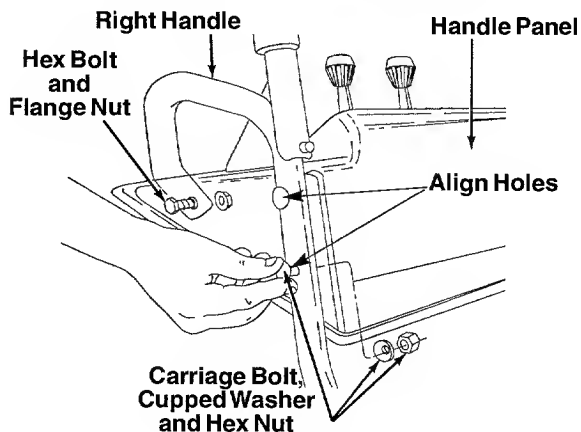

FIGURE 3
- Place handle panel in position between the handles so the ends of the curved part of the handles go through the slots in the handle panel. Align the holes in the handle with the holes on the two sides of the handle panel. See figure 3.
- Attach handle panel to the handle with four carriage bolts, cupped washers (cupped side against the handle panel) and hex nuts as shown in figure 3. Align the contour of the carriage bolt head with the handle.
- Attach rear of handle panel with two 1/4-20 hex bolts and flange nuts. See figure 3. Do not tighten at this time.